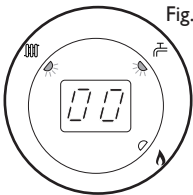

Fig. 70
6. The display will show '00', indicating maximum rate, then revert to 'P' alternating with the current boiler temperature (Figs. 70, 71 & 72).